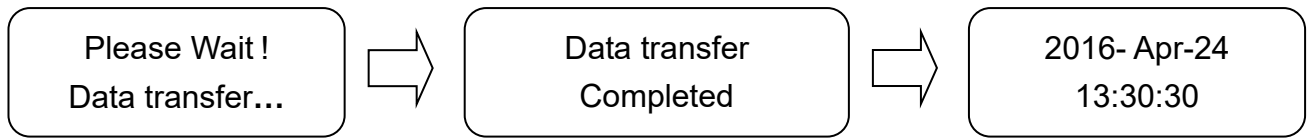

Figure 33
- b) After completing a sterilization cycle, the data will be stored to USB flash drive; and the recorder returns to stand-by mode. The sequences of storage message are shown in the Figure 33.